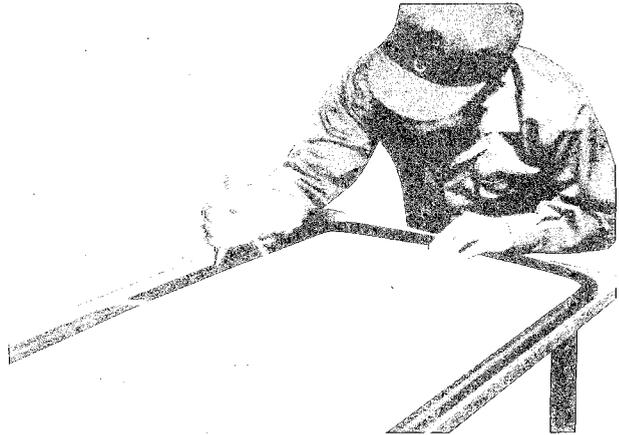

Fig. 14-3 Fitting string
3. Fit a string of 4 mm (0.16 in) in diameter to the groove of the weatherstrip as shown in Fig. 14-3.